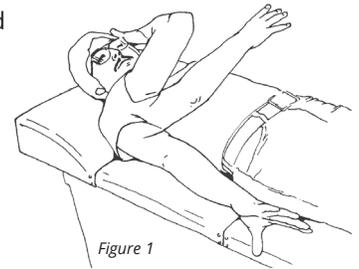

Figure 1
Step 2: Next, practice flexing the biceps muscles (flexion pattern). Begin by moving your uninvolved arm through the full pattern, with your arm at your side, and the palm rotated up and the thumb out. Pull your arm up and across your nose, bending the elbow and turning the arm so that your thumb is now up (Figure 1). Repeat several times, concentrating on the movement.